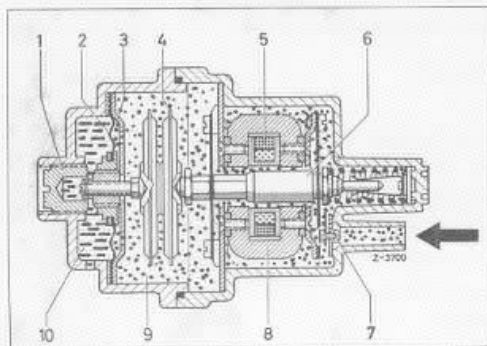

FIG.10
1. The intake pipe PRESSURE SENSOR (Fig. 10) records the most important information - the engine load.